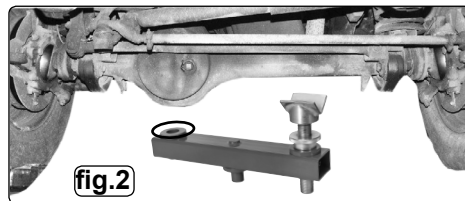

fig.2
- 4.3. Position the assembly beneath the vehicle axle as fig.2. Keeping the beam horizontal, jack the saddle up to the differential casing. Adjust yoke height to engage with back axle housing for smooth lifting.